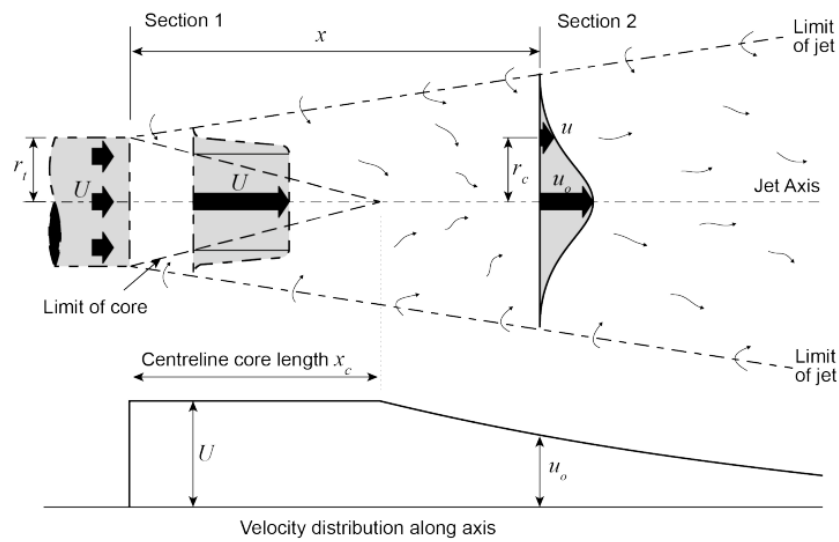

Fig. 3: Round turbulent jet.
- Compare the shape of the chart with that of (Figure 3) in the theory.